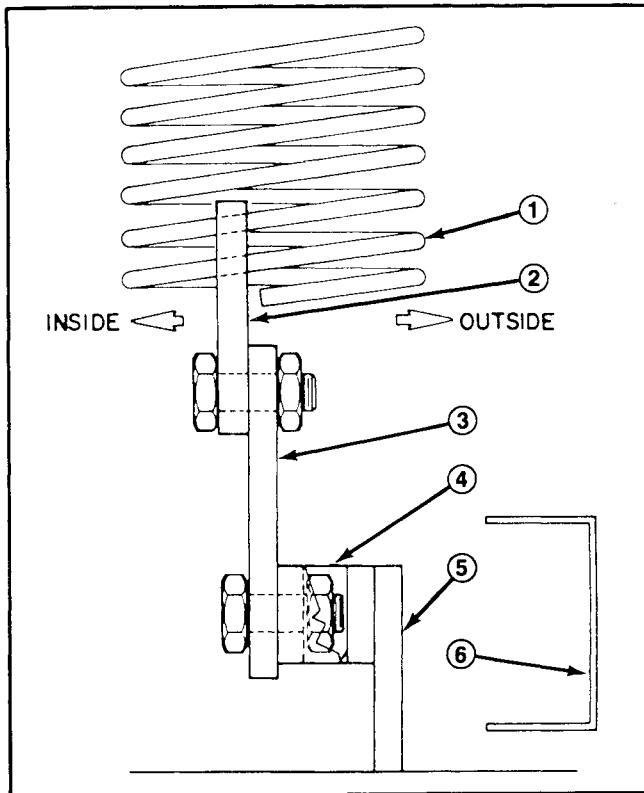

Figure 13
3. Lower cutting unit, remove pins from height-of-cut brackets (4).
4. Drive roll pin out of yoke and input shaft of gear box (Fig. 13). Slide yoke off the input shaft. If traction unit will be used without the cutting unit, remove the PTO shaft from the traction unit; refer to PTO Shaft Removal, page 13.